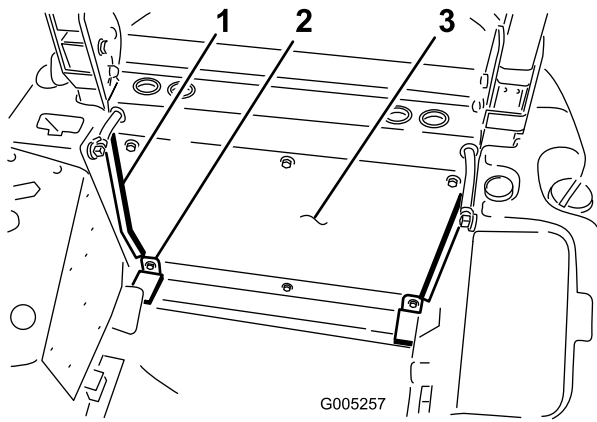

Figure 60
- Align the corner mat mounting holes with the bottom holes in the rear panel and the lower frame cross member holes (Figure 60). Secure the corner mats to the rear panel and cross member with 2 rear panel mounting screws previously removed. Use the remaining screw to secure the bottom middle of the rear panel to the cross member.
4. Remove the backing and affix the self-adhesive seals to each edge of the rear panel (Figure 60). Make sure each seal butts up against the fuel tank side panels.